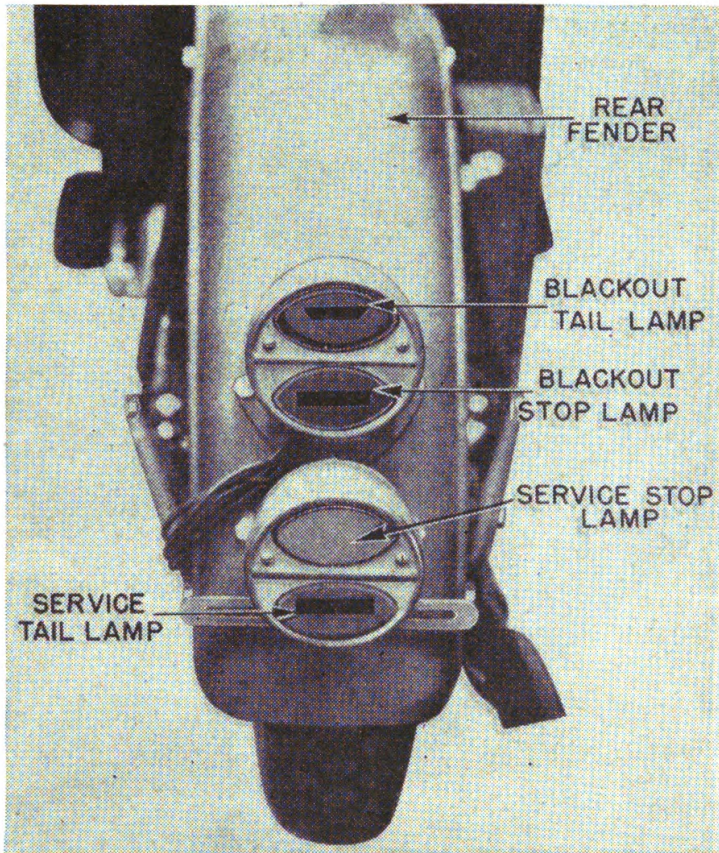

FIGURE 103.—Tail and stop lamps.
switch is actuated by the brake pedal through mechanical linkages, so that it goes on whenever the rear brake is applied. The tail and stop lamps are mounted on the rear fender as shown in figure 103.
**85. Blackout light circuit.**—*a.* Military motorcycles are equipped with two blackout lamps. The blackout head lamp is mounted on the front fender and the blackout tail and stop lamp is mounted on the rear fender, figure 103. The blackout head lamp has a small housing similar in appearance to an automobile parking light. The blackout tail and stop lamps are combined in the same housing. A shutter somewhat like a venetian blind is placed in front of the lens on a